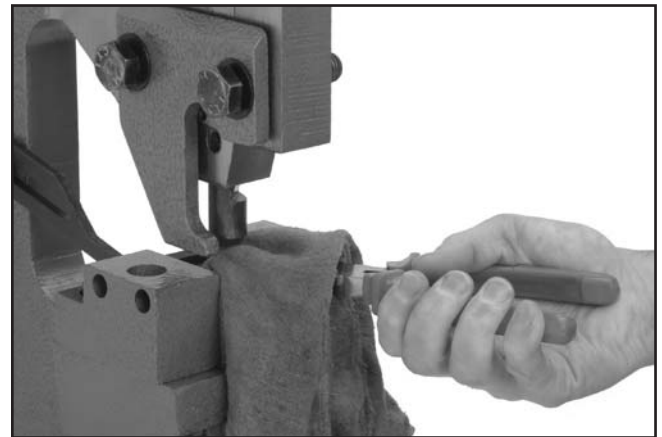

Figure 12. Installing punch.
4. Slide the new punch into the machine, then replace the punch pin to secure the punch. Align the flat portions of the punch and punch pin. Use gloves or a rag and pliers to hold the punch during installation (**Figure 12**).